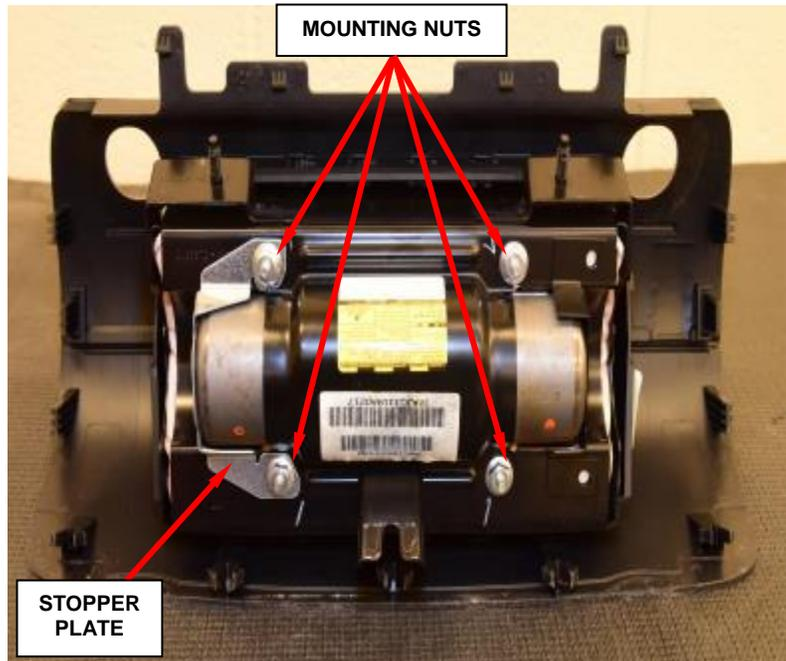

Figure 103 – Mounting Nuts
b. Remove and **discard** the four mounting nuts from the passenger airbag module (Figure 103).
- q. Passenger airbag retrofit is complete (Figure 103).